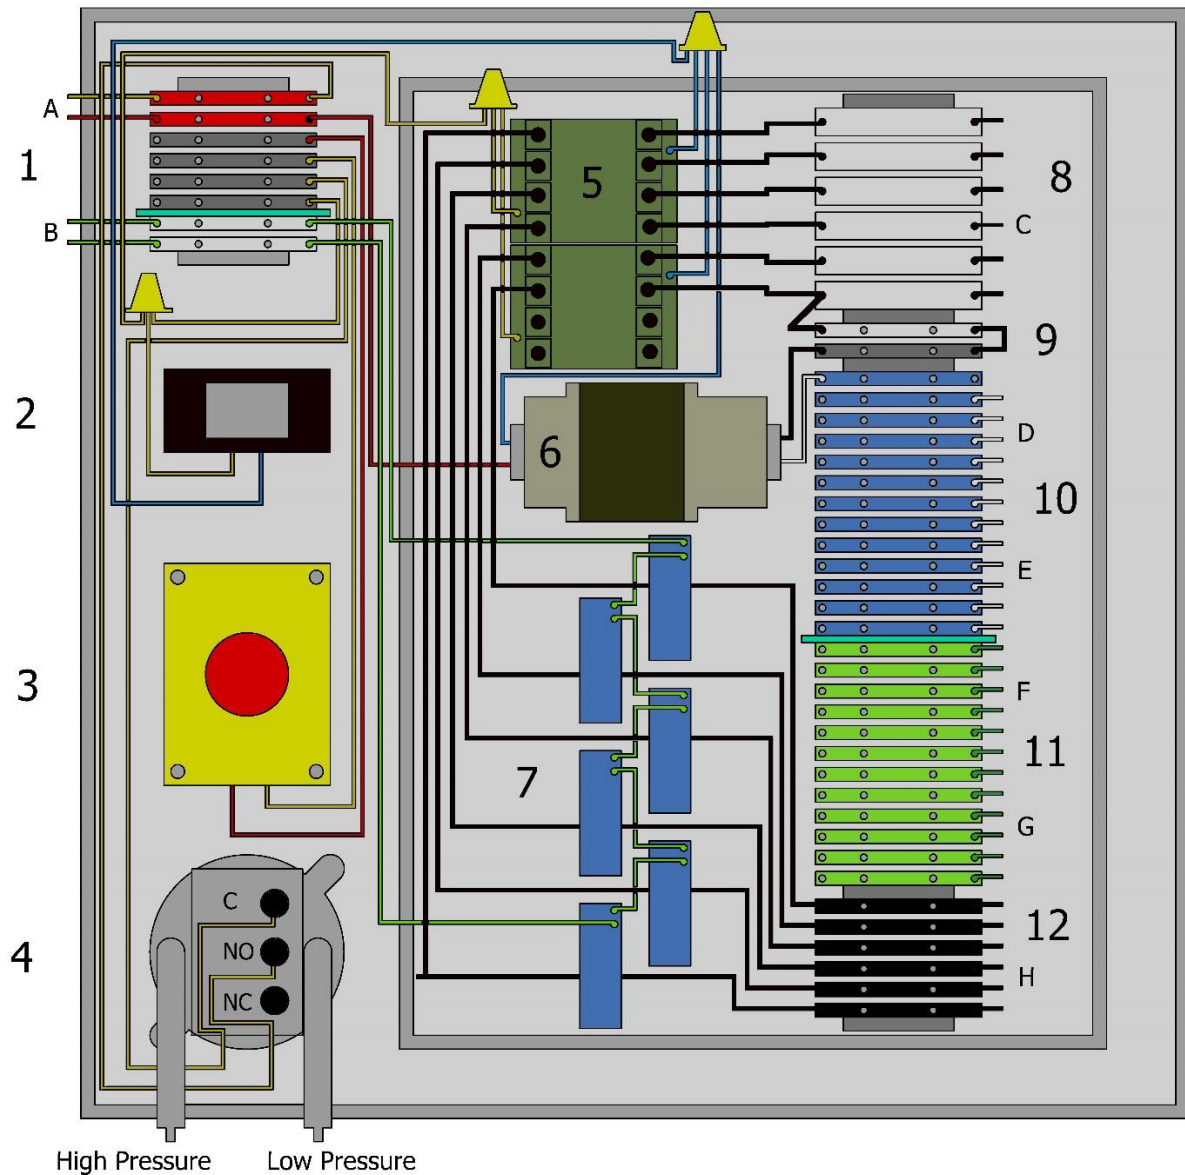

Figure 9: 6 Circuit Control Box
7.) Make all necessary electrical connections inside control box. See Figure 9 to reference on how to wire the control box.